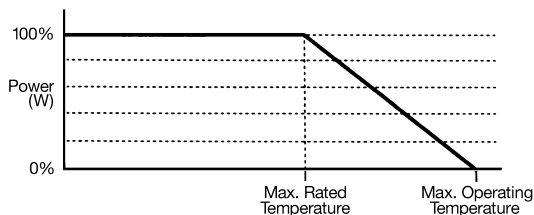

Figure 2: Example of Power Derating Curve
2. Power Rating and Performance Testing. Always use the trimmer potentiometer when testing rated performance. Carefully check the rated power, maximum operating voltage, operating temperature range, and other rated performance specifications. Increase or decrease the rated power according to the power derating curve. A typical power derating curve is shown in Figure 2. Use a trimmer potentiometer with sufficient allowable power rating to maintain stable performance over a long period of time. TOCOS recommends that the maximum working power should not be more than one-half the rated power of the trimmer potentiometer.